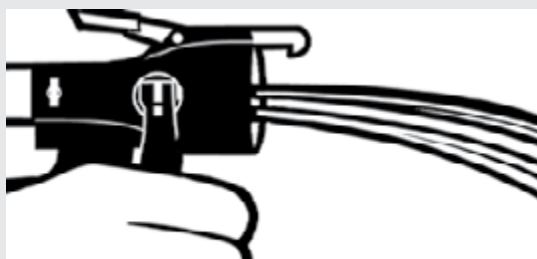

Figure 4.
- Purge the system into a waste container by activating the trigger of the Insta-Flo™ Dispenser. When streams are equal, release the trigger, clean the chemical from the dispenser face with a clean rag, and reapply petroleum jelly. (See figure 4)